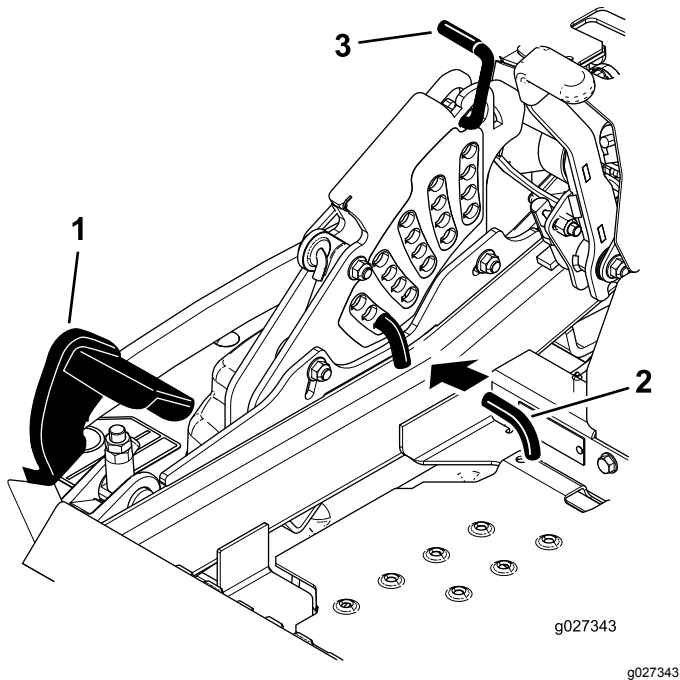

Figure 92
5. Push the deck-lift pedal all the way forward and the deck latches at the 14 cm (5-1/2 inches) transport position (Figure 92).